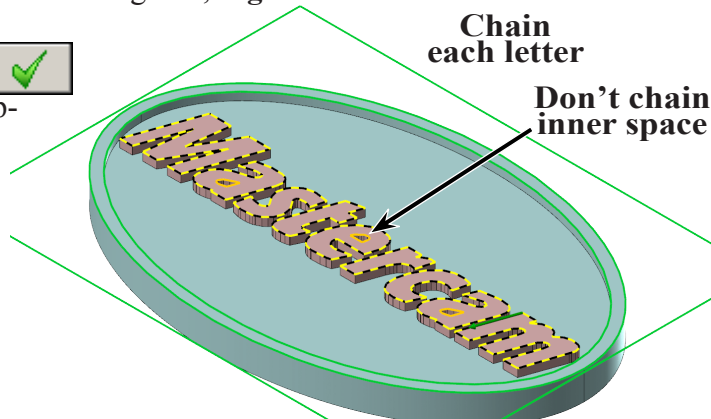

Fig. 36
Step 7. Click **each letters** to Chain letters (no inner space) and click OK  in Chain dialog box, Fig. 36.